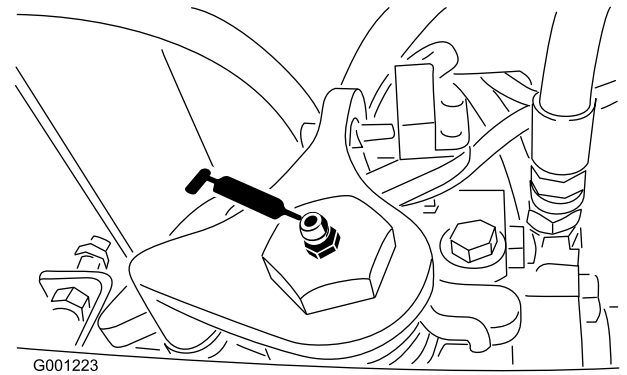

Figure 41
- Transmission-neutral shaft (Figure 41)